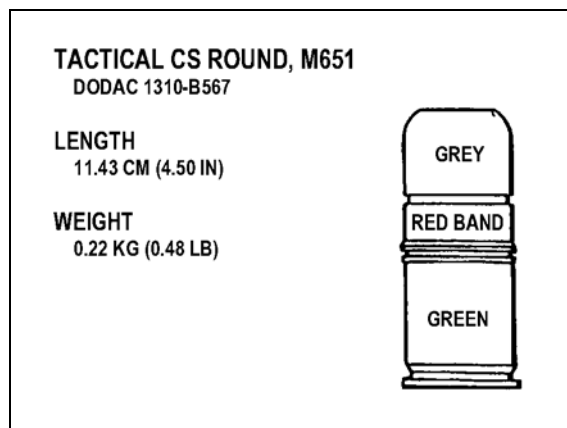

Figure 3-16. CS round.
(7) **CS Round.** This round is gray aluminum with a green casing and black markings (Figure 3-16). Though it is a multipurpose round, it is most effective for riot control and